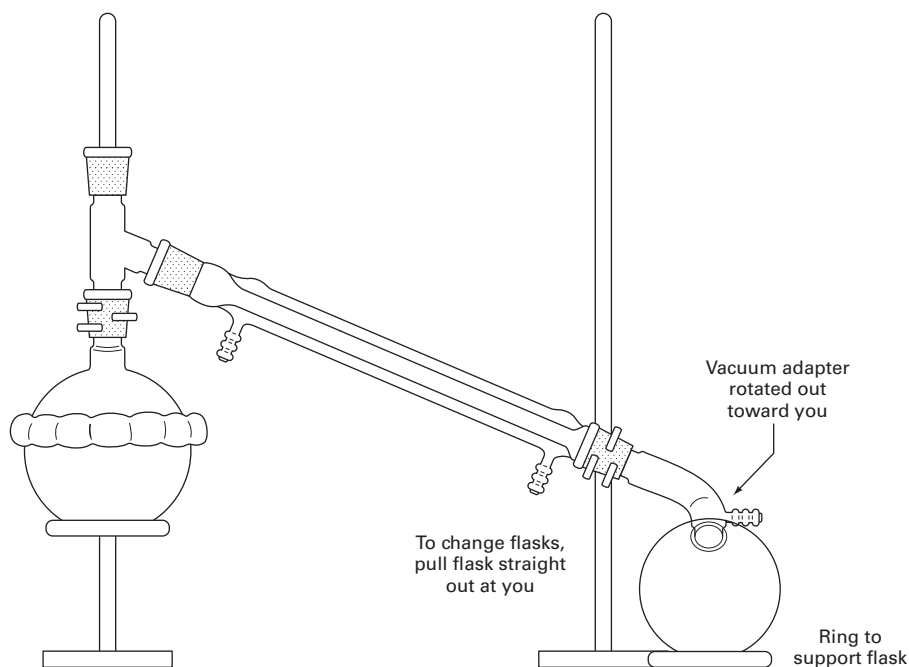

FIGURE 18.8 Distillation setup with receiving flask rotated toward you.
8. At this point, you have two clamps, one holding the distilling flask and the other at the end of the condenser/vacuum adapter (Fig. 18.8).
- a. The receiving flask will not fit vertically from the end of the vacuum adapter to the bench top (Fig. 18.8). Easy. With the vacuum adapter clamp *relaxed* (not so loose that the adapter falls off!), rotate the adapter toward you. There's no reason it *has* to be at a right angle. Stick a receiving flask on the end, put a suitable cork ring under the flask, and that's it. Note that you can *easily* change receiving flasks. Just slide one off and slide another on.